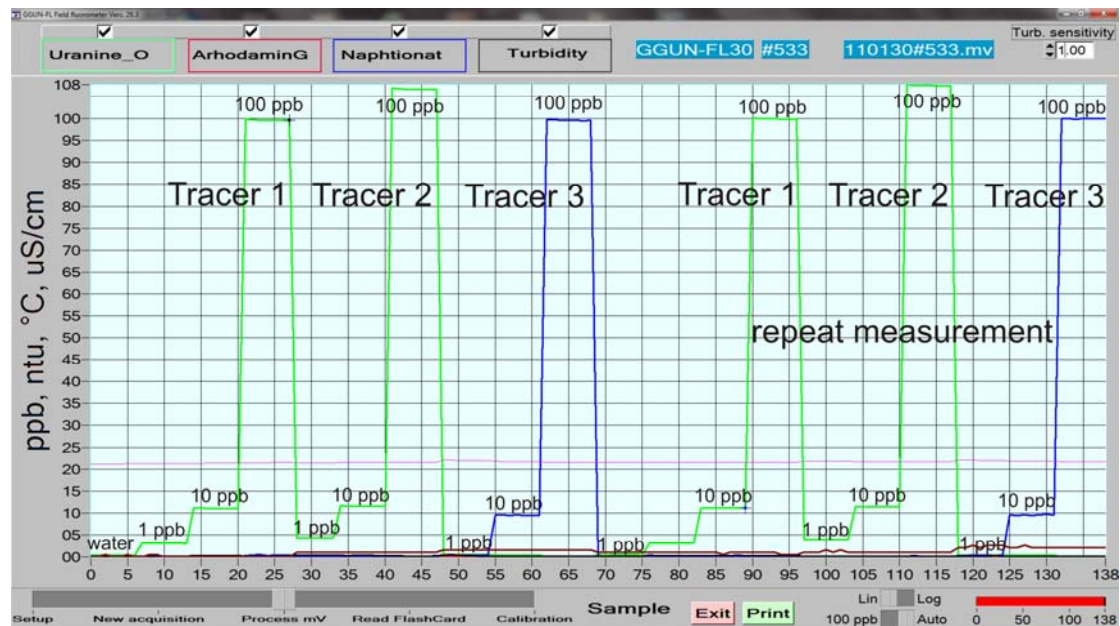

Figure 7: Result of Calibration using Calibration for Tracer 1
- start FLUO using MV-file created during calibration (Figure 7)